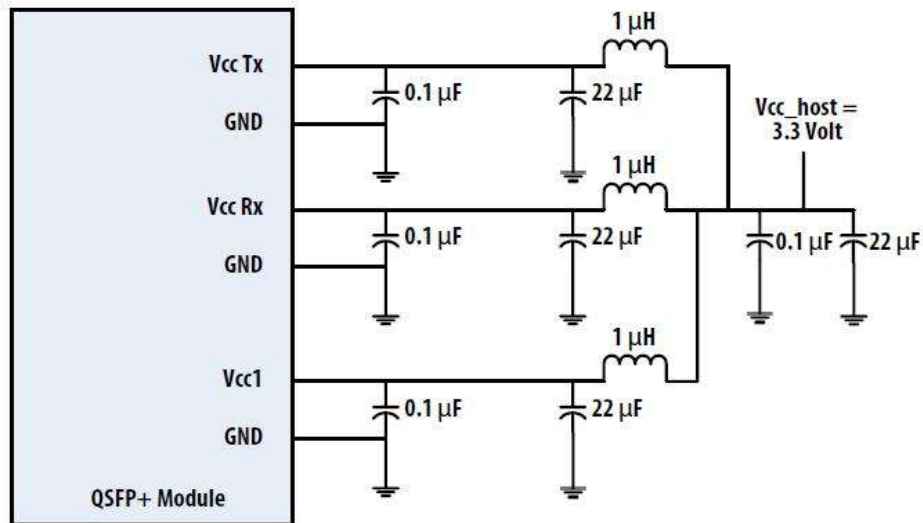

Figure 3. Recommended Power Supply Filter
2. VccRx, Vcc1 and VccTx are the receiver and transmitter power suppliers and shall be applied concurrently. Recommended host board power supply filtering is shown in Figure 3 below. Vcc Rx, Vcc1 and VccTx may be internally connected